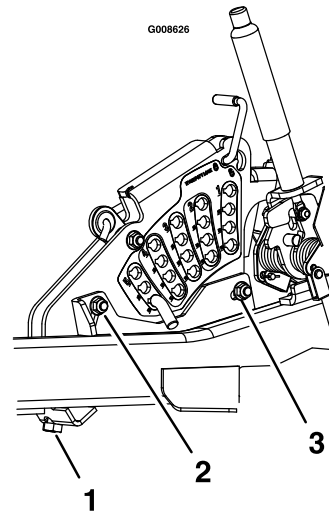

Figure 31
14. If the four deck links do not have enough adjustment to achieve accurate cut height with the desired rake, the single point adjustment can be utilized to gain more adjustment (see Figure 31).